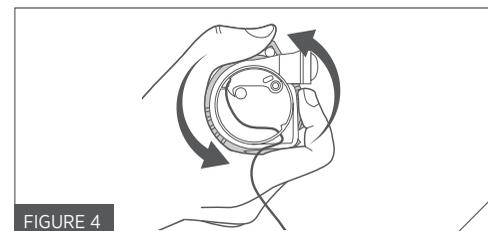

FIGURE 4
5. Once you have enough space between yellow and black, put the key aside and grip the black locking ring directly. Continue to turn the black locking ring counter-clockwise – opposite the yellow piece (Fig. 4).